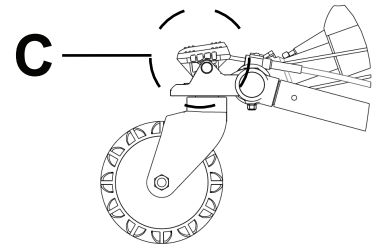

Figure 16 – Wheel lock and Steer-Lock off
To release a wheel lock or **Steer-Lock** (C), press down on the top of the pedal with your foot or lift up on the pedal with your toe (Figure 16). The top of the pedal will rest against the caster frame when you release the wheel lock or **Steer-Lock**.